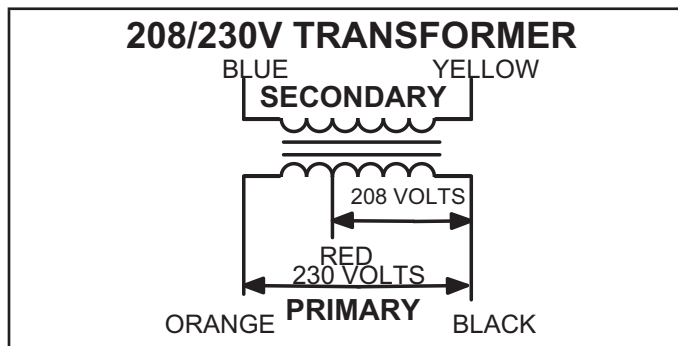

FIGURE 3
All use a single line voltage to 24VAC transformer mounted in the control box. Transformer supplies power to control circuits in the unit. The transformer is rated at 70VA and is protected by a 3.5 amp circuit breaker (CB8). The 208/230 (Y) voltage transformers use two primary voltage taps as shown in FIGURE 3, while 460 (G) and 575 (J) voltage transformers use a single primary voltage tap.